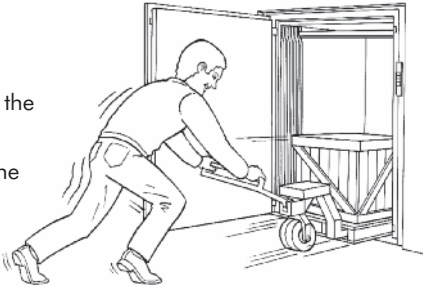

Fig. 9
- the back wall of the lift car (or rear inner car gate in through-cars) is NOT used as a buffer to stop trolleys or wheeled loads (Fig. 9).